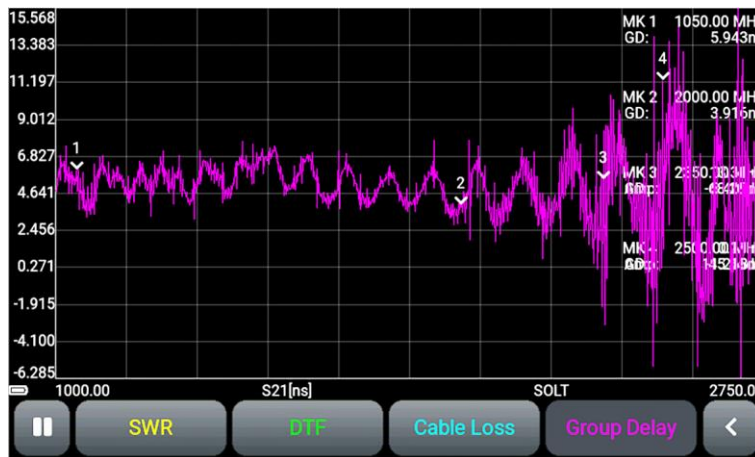

Figure 10.15 - Group delay plot
10.9. The group delay is the propagation time of the signal through the analyzed circuit. This signal delay will differ for different frequencies if the test device does not have a linear phase response (PFC). To determine the group delay of the signal phase in a certain frequency range, a plot is used (figure 10.15). By measuring the phase of parameter S21, the analyzer calculates the group delay of the test device. The resulting values are displayed in nanoseconds (ns).